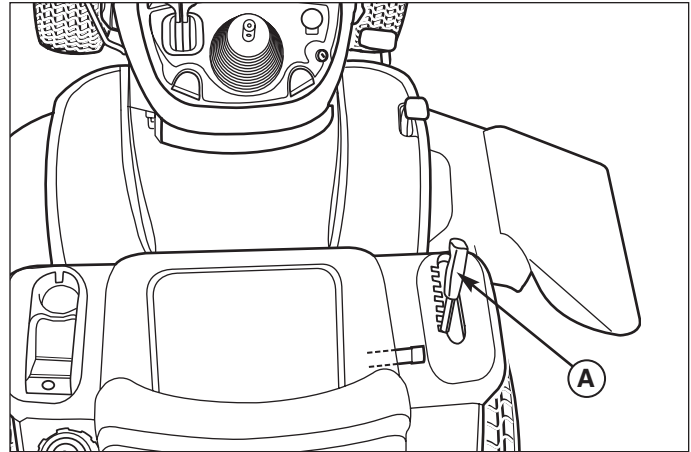

Figure 7. Raising & Lowering Mower
2. Place the mower lift lever (A, Figures 7) in the lowest position. Slide mower deck under right side of tractor so that mower hitch is aligned with the front tractor hitch.
The cutting height lift lever (A, Figure 7) controls the mower cutting height. The cutting height is has seven positions between approximately 1-1/4" and 4" (3,2-10 cm).